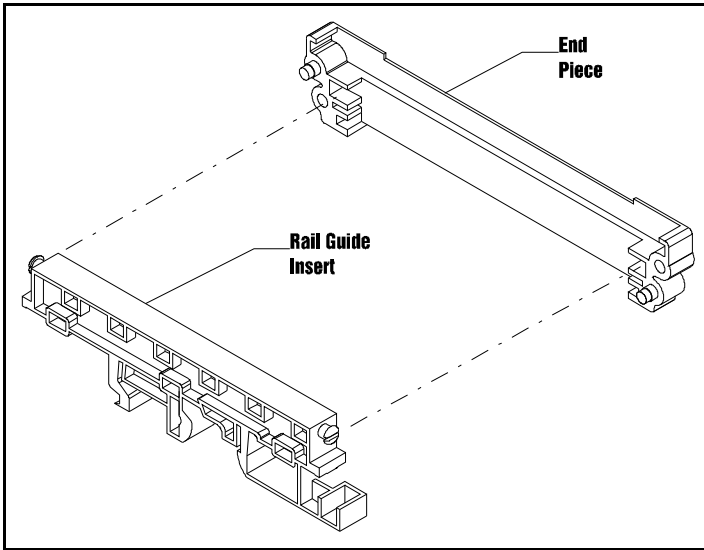

FIG. 3-4 INSTALLING THE RAIL GUIDE INSERT INTO THE END PIECE
- Step 1. Take one end piece and one rail insert. Snap the rail guide insert into the end piece. Take the other end piece and install the other rail guide insert (See Fig. 3-4 & 3-5)